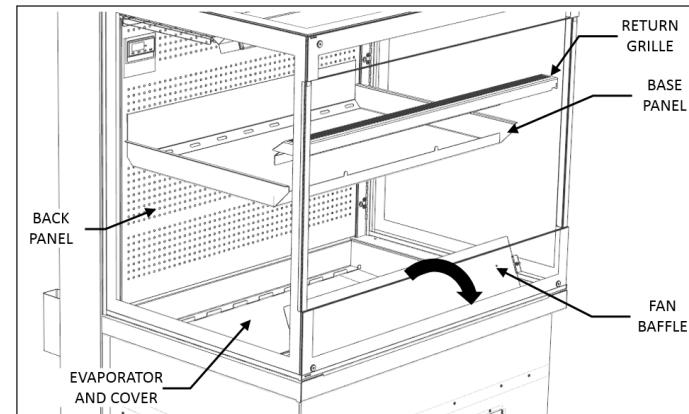

Figure 5 - Diagram showing access to the Evaporator
- Remove the Base panels - **see Figure 5.**